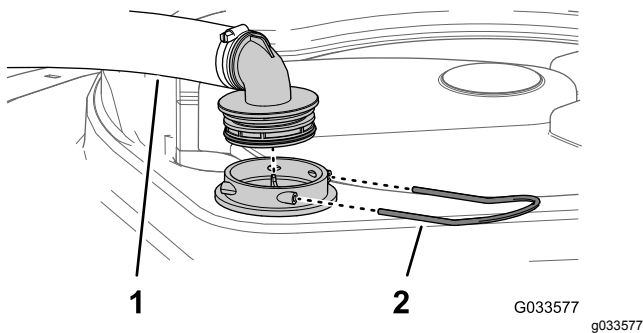

Figure 13
2. At the top of the sprayer tank, remove the retainer that secures the hose fitting attached to the large hose from the filter housing (Figure 13).
3. Remove the hose and hose fitting from the filter housing (Figure 13).